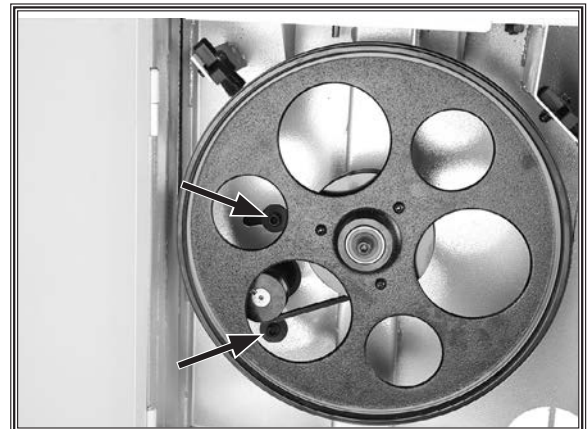

Figure 85. Motor mount cap screws and V-belt tension controls (behind wheel).
5. Loosen both motor mount cap screws (see **Figure 85**).